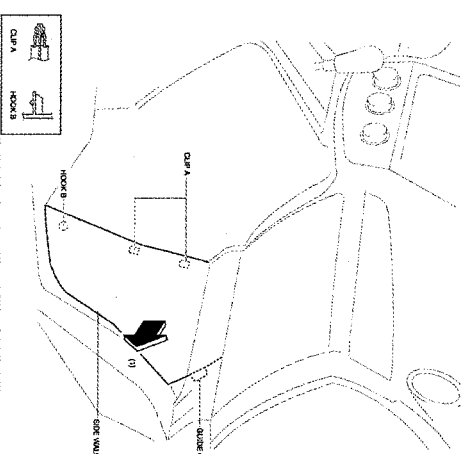

FIGURE 6
- 1.) PULL OUT THE SIDE WALL IN THE DIRECTION OF THE ARROW (1) THEN REMOVE THE CLIPS A AND HOOK B. (SEE FIGURE 6)